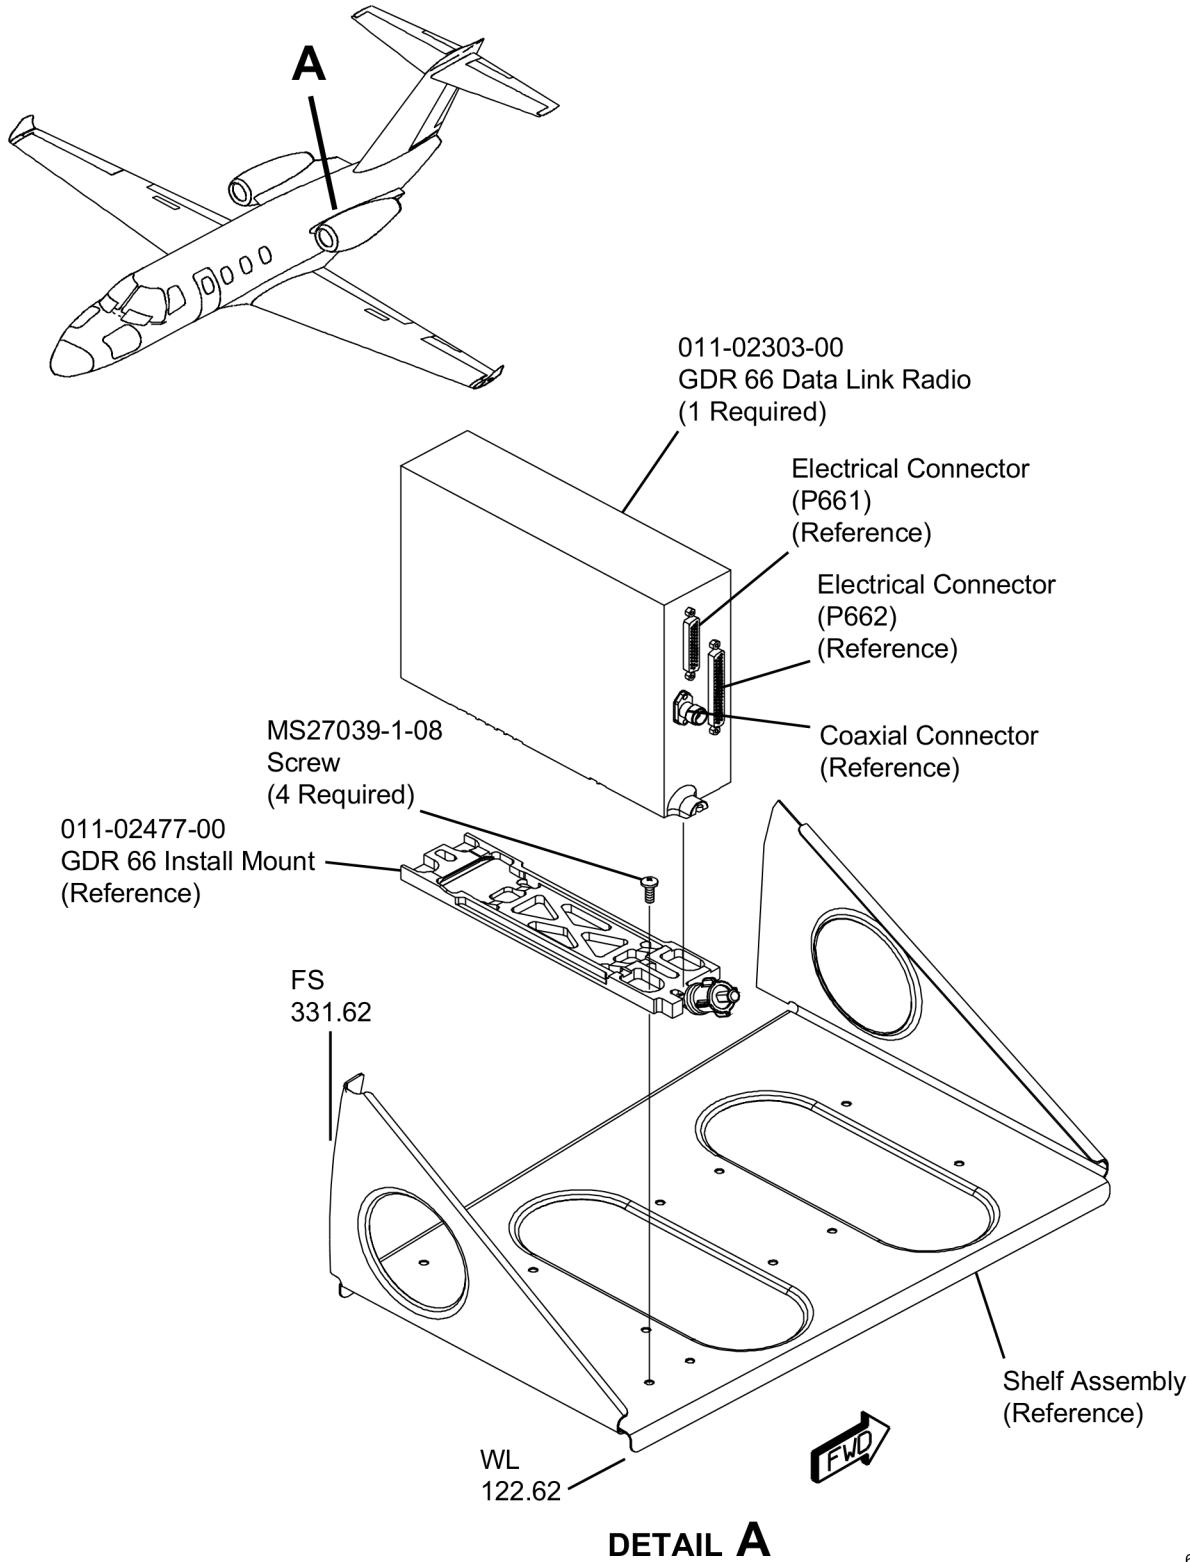

Figure 2. GDR 66 Data Link Radio (Sheet 1)
3. (Refer to Figure 2, Detail A.) Install the GDR 66 VHF Data Link Radio.